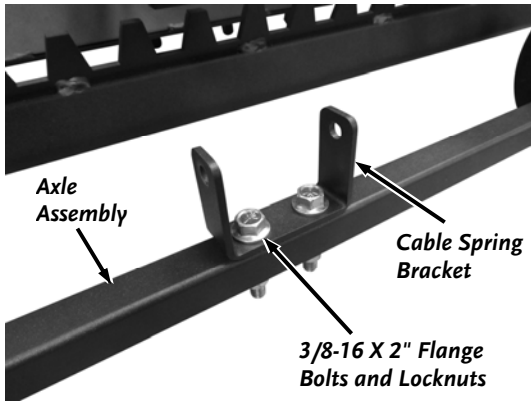

Figure 22
26. Install the Cable Spring Bracket onto the Axle Assembly with two 3/8-16 X 2" flange Bolts and Locknuts using two 9/16" Wrenches (**Figure 22**).